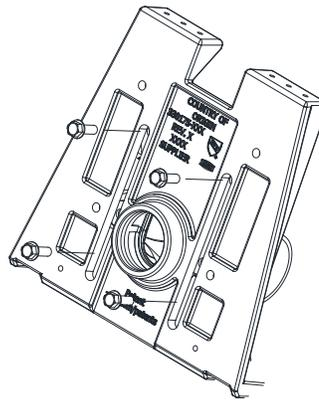

Figure 3
3. Remove the faceplate from the trim kit box and align the faceplate slots with the gasket and fitting holes. Secure the (4) ½[13] bolts, from 669553869 hardware bag, tighten down bolts until they are snug. Bolts will be torqued down in Step 4. See Figure 3.